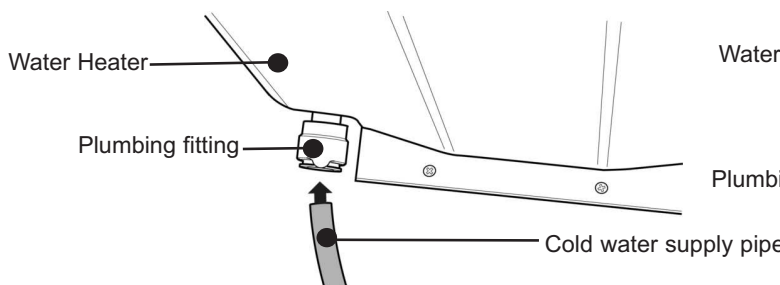

Fig. 23 Connect Cold Water Supply
Step 12 Connection to Cold Water Supply (see Figs. 23 & 24)